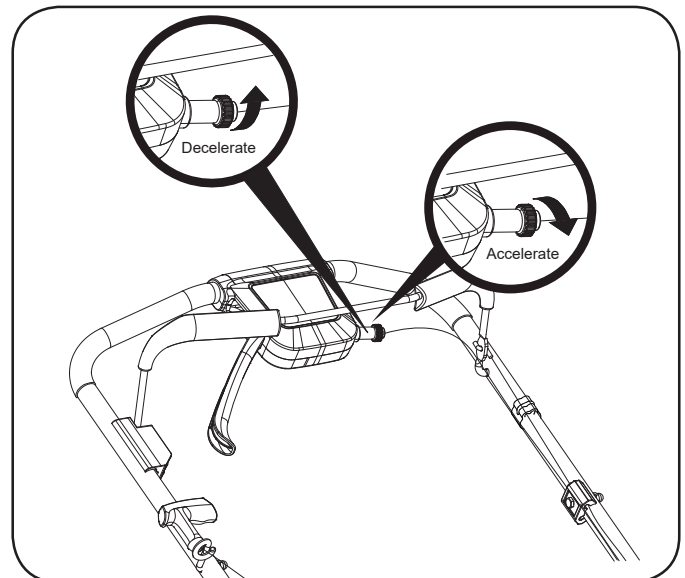

Figure 10
1. To speed up, rotate the speed control clockwise (Figure 10).
2. To slow down, rotate the speed control counterclockwise (Figure 10).